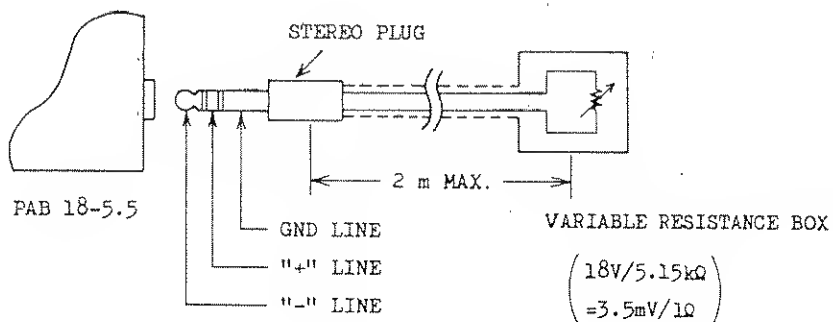

Figure 9
- 1) Connect the Stereo plug with the variable resistor box using a 2-core shielded cable as shown in Figure 9. (The length of the shielded cable should not exceed approximately 2 meters.) Connect the two core wires of the cable to the "+" and "-" lines and the shielding braid to the GND line.